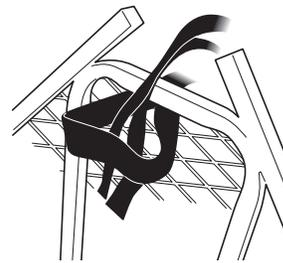
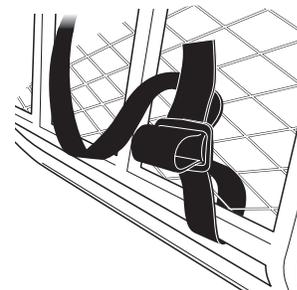

Figure 3A
Figure 3C
3. Attach backpacking straps (48067) at desired location on platform. Fold strap in half. Feed folded strap through platform mesh. Feed the two loose ends of strap through folded loop and pull tight forming a cinch knot. **SEE FIGURES 3A AND 3B.** Feed straps through platform mesh and secure with provided tri-slide buckles. **SEE FIGURES 3C.**